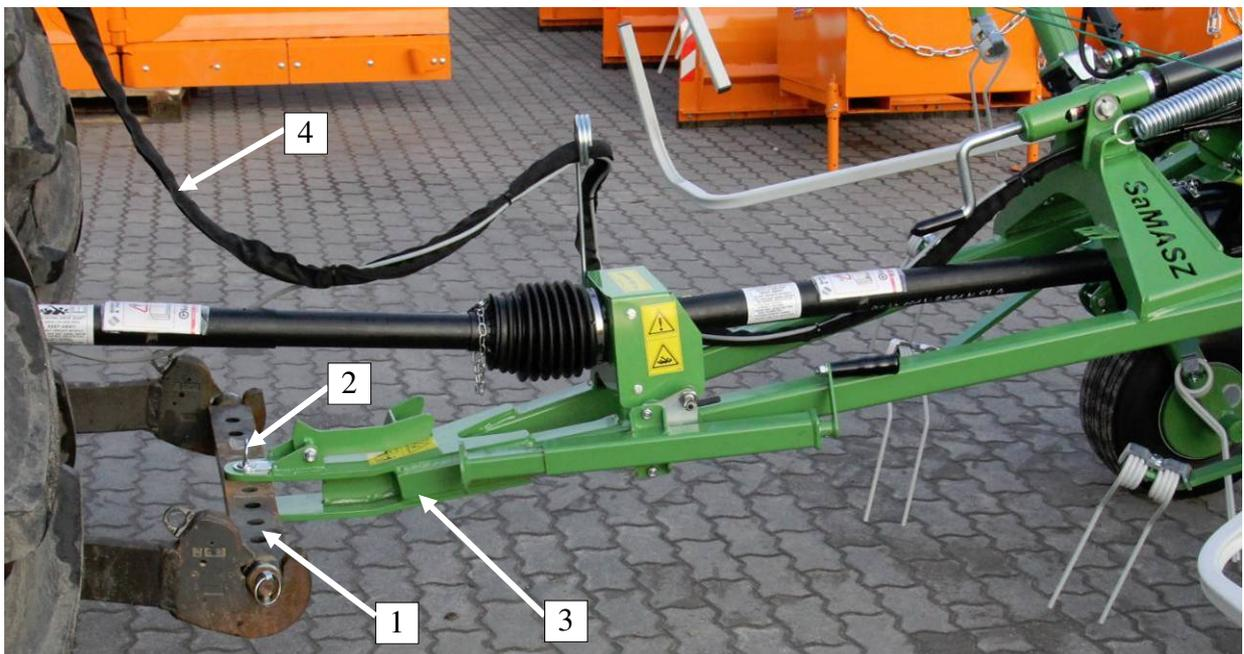

Fig. 10. Connecting the tedder to the tractor (for: P4-471C, P4-531C, P6-651C)
- Mount the tedder on a tractor by means of tiller (3) and 3-point linkage beam (1) (Fig. 10), being part of each tractor's standard equipment.
- Secure the tiller and the beam with pin (2) and protect it with cotter.
- Hydraulic hoses (4) for folding side arms and tiller's cylinder respectively should be connected to two tractor's single-section hydraulic outlets.
- Connect telescopic articulated shaft. If need be shorten the shaft as per item 5.4.